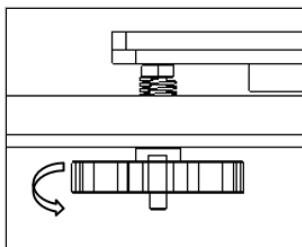

Fig 1
- Step 2. Tighten the hand nuts under the bed to move down the bed to the lowest position (Fig 1).
- Step 1. Do "Prepare>>Auto Home>>Home All" on control panel, and then do "Prepare>>Temperature>> Preheat PLA", waiting nozzle temperature reached to 190 °C (Fig 1).
- Step 1. Insert the SD card to the SD card socket on the printer (Fig 1).